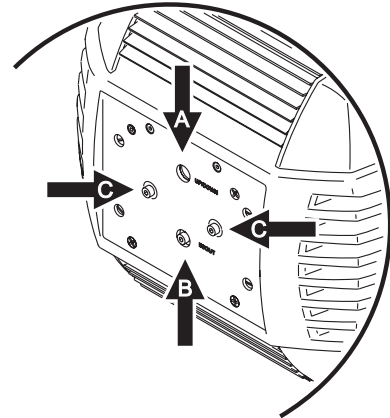

**Figure 4: Lamp terminals**
- See Figure 4. Make sure that the terminals on the lamp sit below the V-section in the lampholder clips and not in the V-section itself.